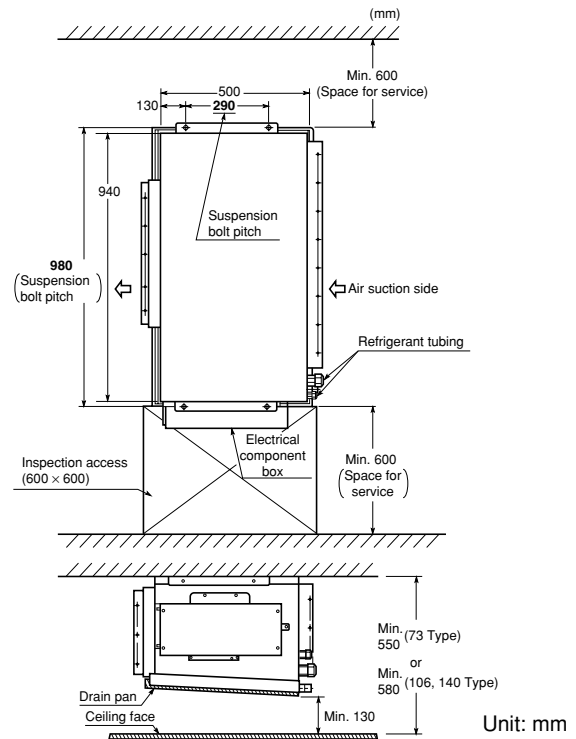

Fig. 3-113a
- The minimum space for installation and service is shown in Fig. 3-113a.
- (1) When placing the unit inside the ceiling, determine the pitch of the suspension bolts referring to the dimensional data on the previous page. (Figs. 3-113a and 3-114a)